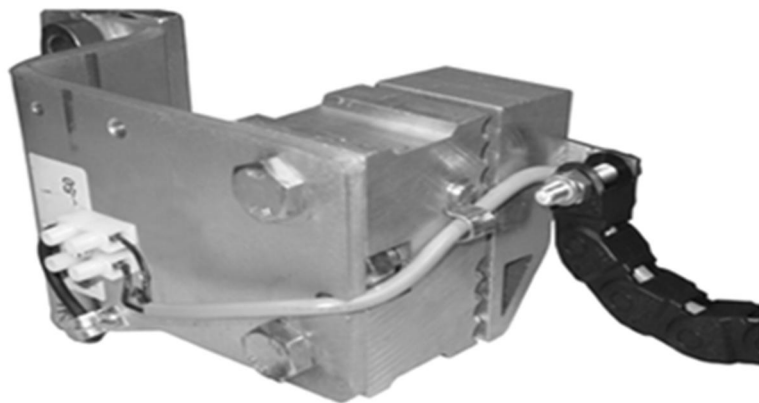

Figure 11
18. The reversing edge wires are not polarity sensitive therefore, it doesn't matter which terminal the wires go to on the white plastic terminal block. (See Figure 11).